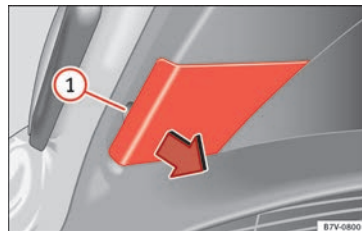

Fig. 110 On the rear lid: Remove the cover.
2. Extract the cover carefully using the flat part of the screwdriver from the vehicle tool kit as a lever (» Fig. 99) on the indent » Fig. 110 ①.